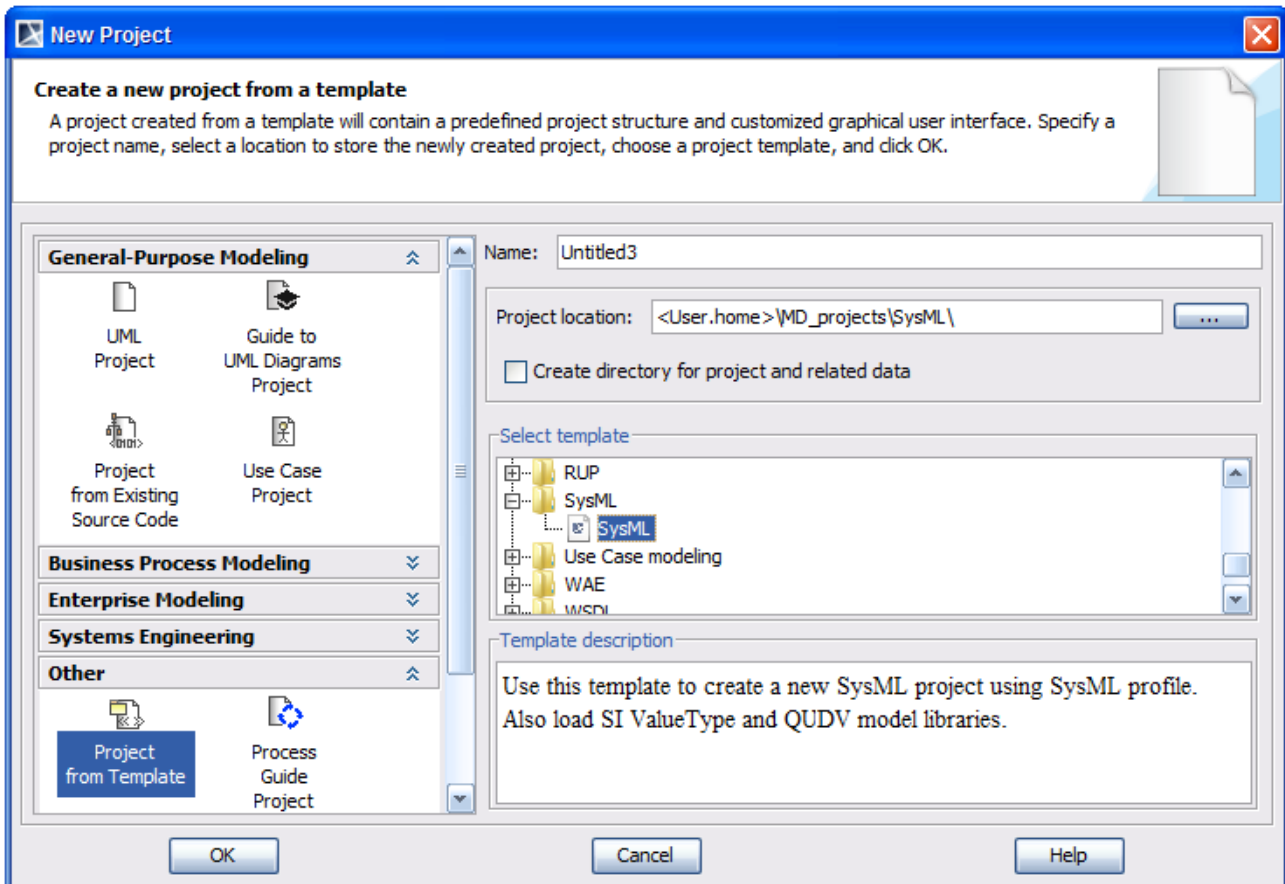

Figure 5 -- Selecting SysML Template
- (iii) press **CTRL+N**.The **New Project** dialog will open (Figure 5).
2. Click the **Project from Template** icon (Figure 5).
5. Select the **SysML** template from the **Select template** tree and click **OK** (Figure 5).